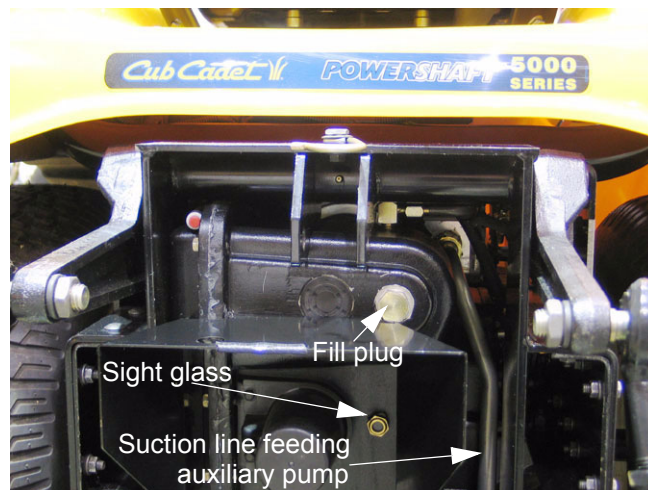

Figure 3.8
- 3.8. Check the fluid at sight glass gauge on the back of the transmission. Check the level, and compare the fluid to a sample of Cub Cadet Hydraulic Drive System Fluid Plus. Top-up or replace the fluid as necessary. See Figure 3.8.